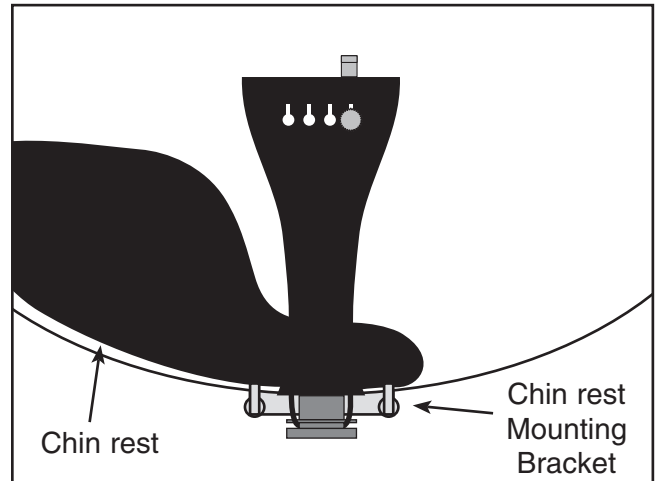

Figure 16. Chin rest placement.
3. Place the chin rest bracket and chin rest over the tailpiece and end-pin (**Figure 16**) at the end of the violin body.